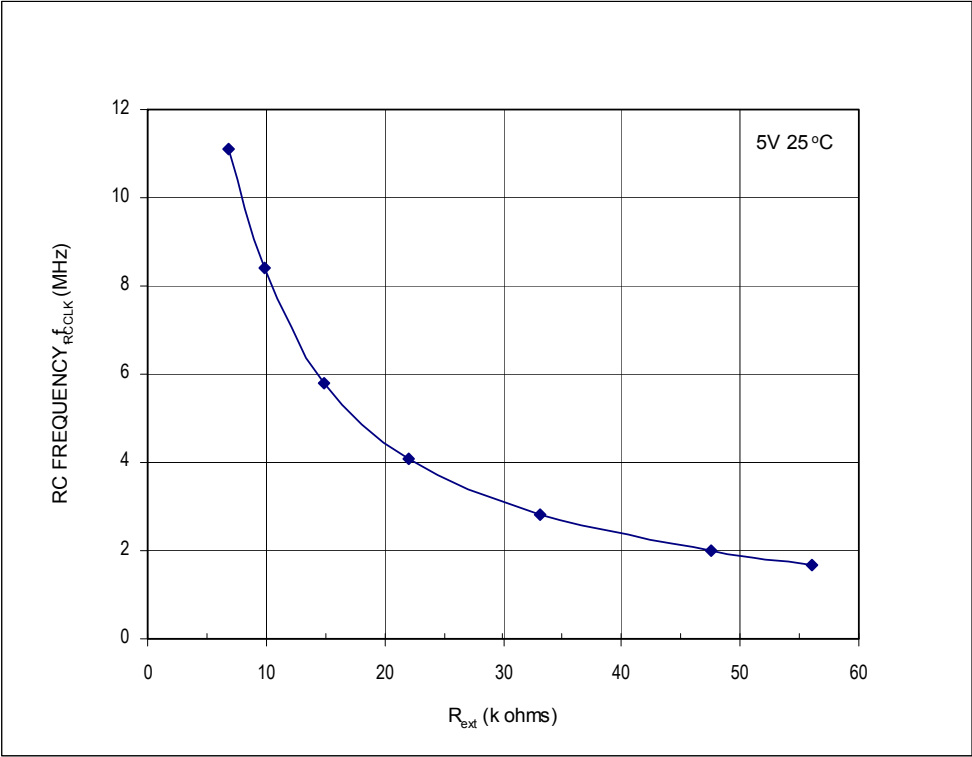
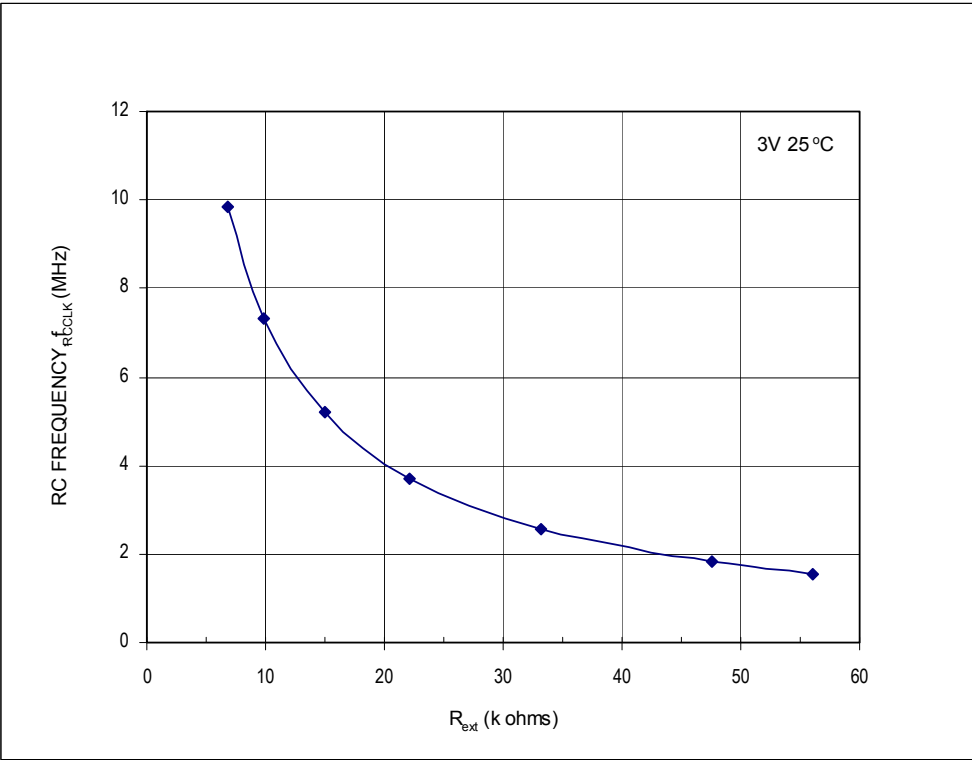

Figure 18-7. RC versus Frequency (5 Volts @ 25°C)
Figure 18-8. RC versus Frequency (3 Volts @ 25°C)
| RC oscillator external resistor (3)$V_{DD} = 5V$$V_{DD} = 3V$                                                                                                                                                                    | $R_{EXT}$                                         | See Figure 18-7See Figure 18-8 |                                                  |                            | —                                |